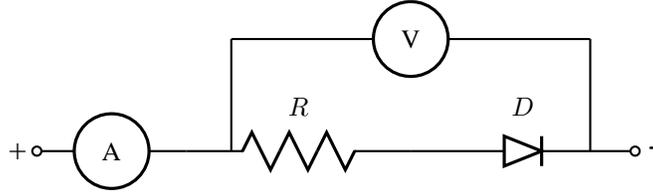
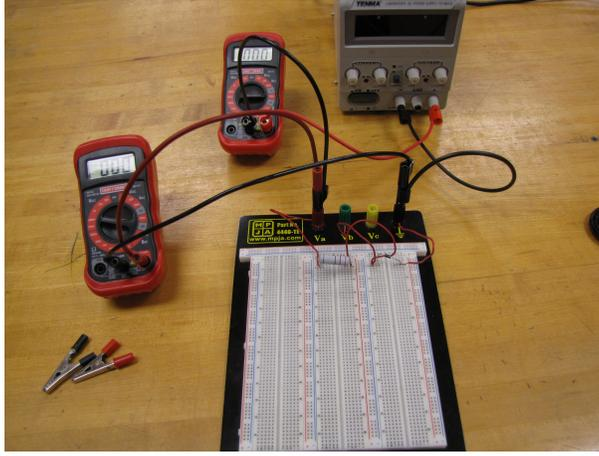

Figure 4: The schematic of the circuit for adjusting the power supply.
Figure 5: The circuit corresponding to the schematic in in Fig. 4 assembled on the breadboard.
3. Adjust the power supply to protect the circuit and components. Place the volt meter in parallel with the resistor and diode (See the schematic in Figure 4 and and the circuit, itself, in Figure 5.) First, set the power supply to limit its maximum current output when there is, approximately, a 3.0 volt potential difference across the resistor and diode. The current setting on the power supply will be left at this position for the duration of the experiment. The voltage setting on the power supply should now be set to zero.